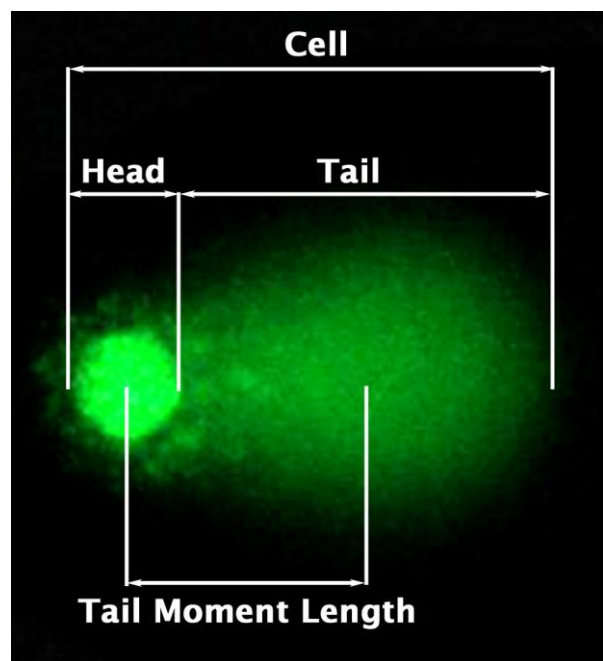

Figure 3: Typical Damaged DNA in Comet Assay.
(b) Extent Tail Moment = Tail DNA% x Length of Tail (see Figure 3)
*Tail Moment Length is measured from the center of the head to the center of the tail (see Figure 3)